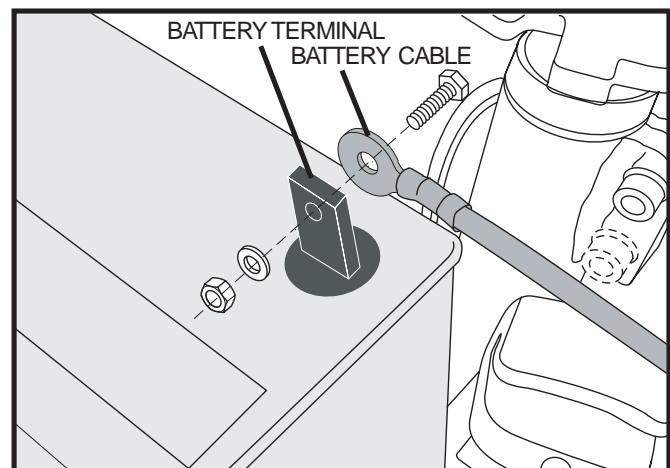

Figure 13. Battery Cable Removal From The Terminal
4. Pull back the terminal boot and disconnect the battery cables from the battery terminals. See figure 13.